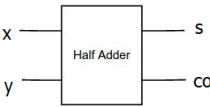

Figure 1: Half Adder Truth Table and block representation
2. Write down a module which is called HA into your `arithmetic_circuits.v` file. This module is going to have 1-bit inputs `x` and `y` and 1-bit outputs `cout`(carry out) and `s`(sum). Ensure that your design provides the truth table shown in Figure 1.